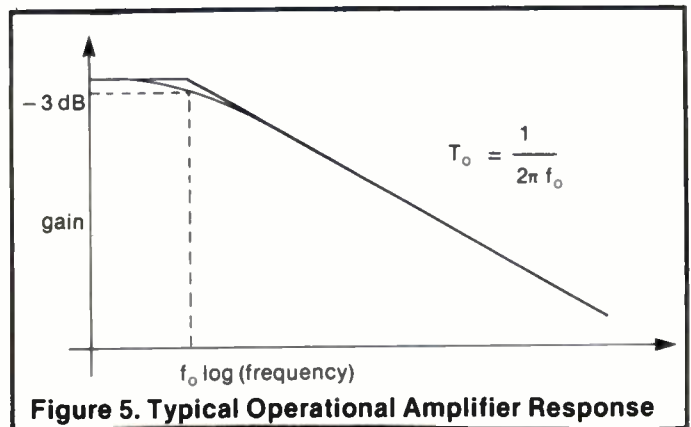

Figure 5. Typical Operational Amplifier Response
$A_v = A_o/(1 + sT_o)$ with A_o being the DC operational amplifier gain and T_o the time constant of its first predominate pole as shown in Figure 5. Note that as $A_v \rightarrow \infty$ equation (13) becomes $F(s) = Z_f/Z_1$, the third order loop case.